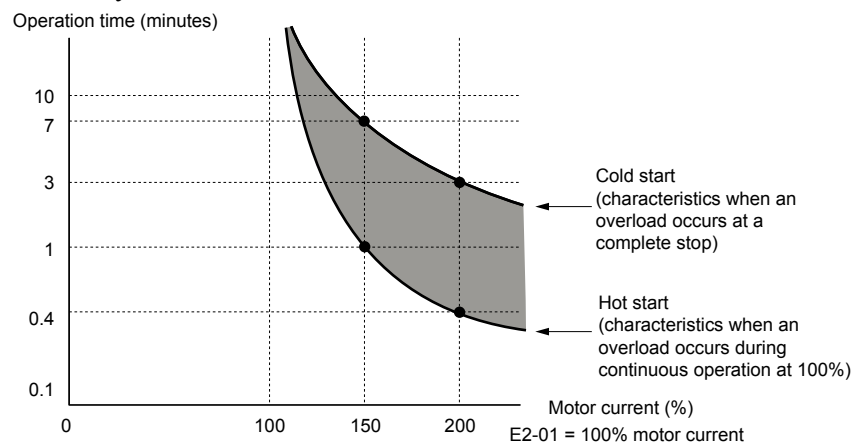

Figure 5.43 Protection Operation Time for General Purpose Motors at the Rated Output Frequency
**Figure 5.43** illustrates an example of the electrothermal protection operation time using a general-purpose motor operating at the value of E1-06, Motor Base Speed, with L1-02 set to one minute.